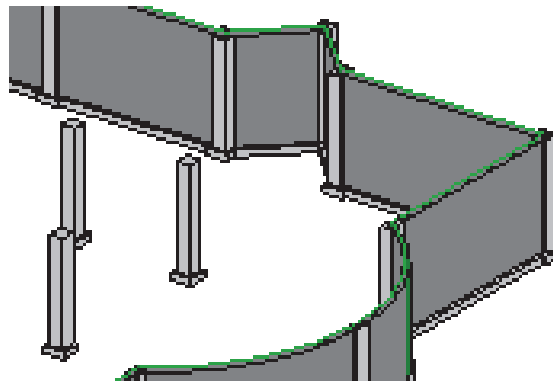

Figure 7–34
15. There should be an isolated footing under each pier and pilaster, as shown in Figure 7–34.